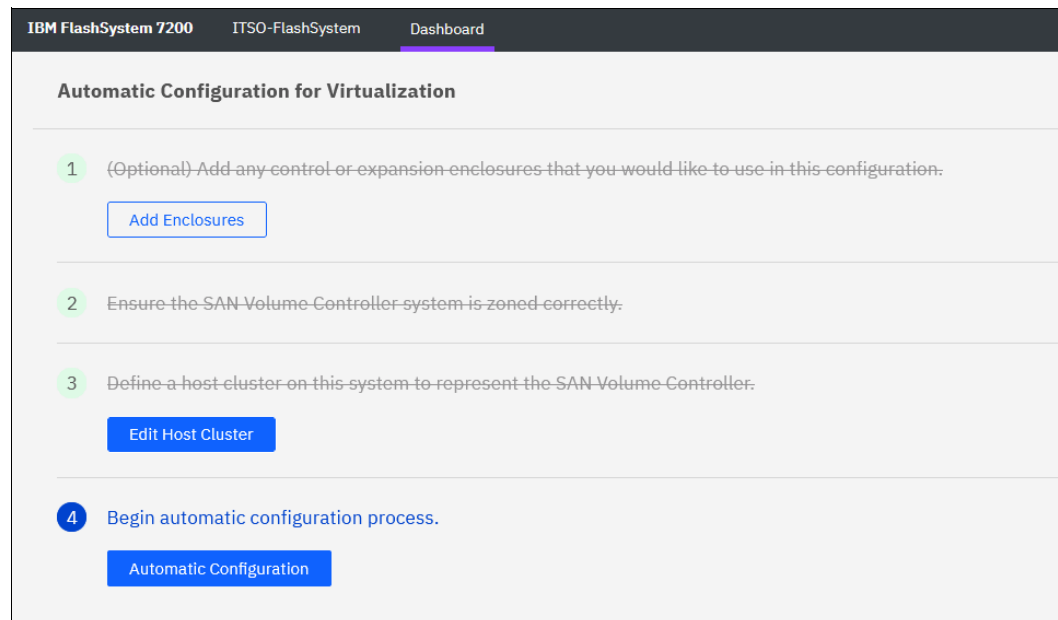

Figure 2-64 Begin the automatic configuration process
6. Click **Automatic Configuration** and check the list of internal resources that are used, as shown in Figure 2-64.